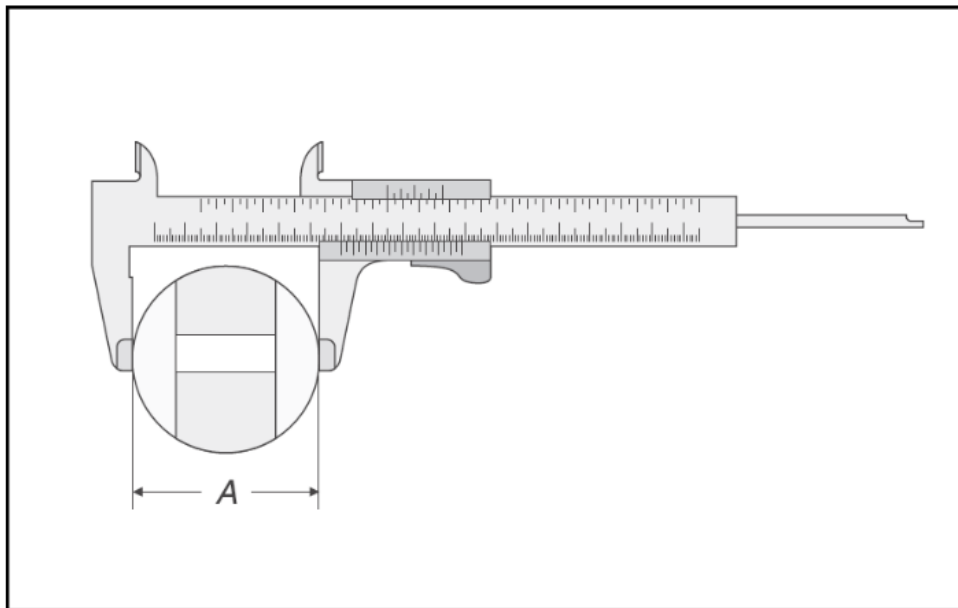

Fig. 11.4. Determination of an outside dimension with the long measuring shanks
2. Estimate the outside dimension A (Fig. 11.4) on the millimeter scale and follow up with a more precise vernier reading.